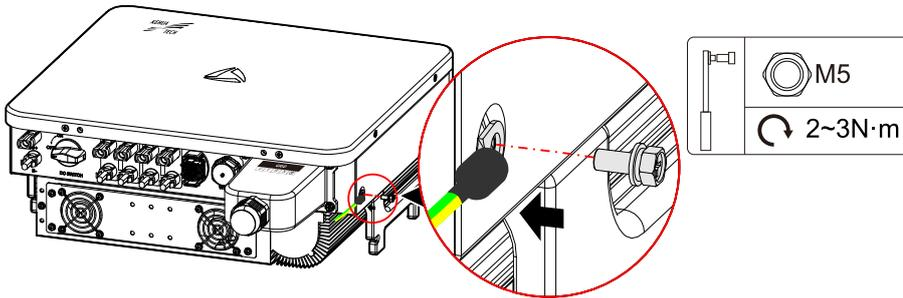

Figure3-16 External grounding connection
Step 2 Connect the crimped grounding wire to the external grounding terminal at the side of the inverter by equipped stainless steel combination bolt M5*12, as shown in Figure3-16.